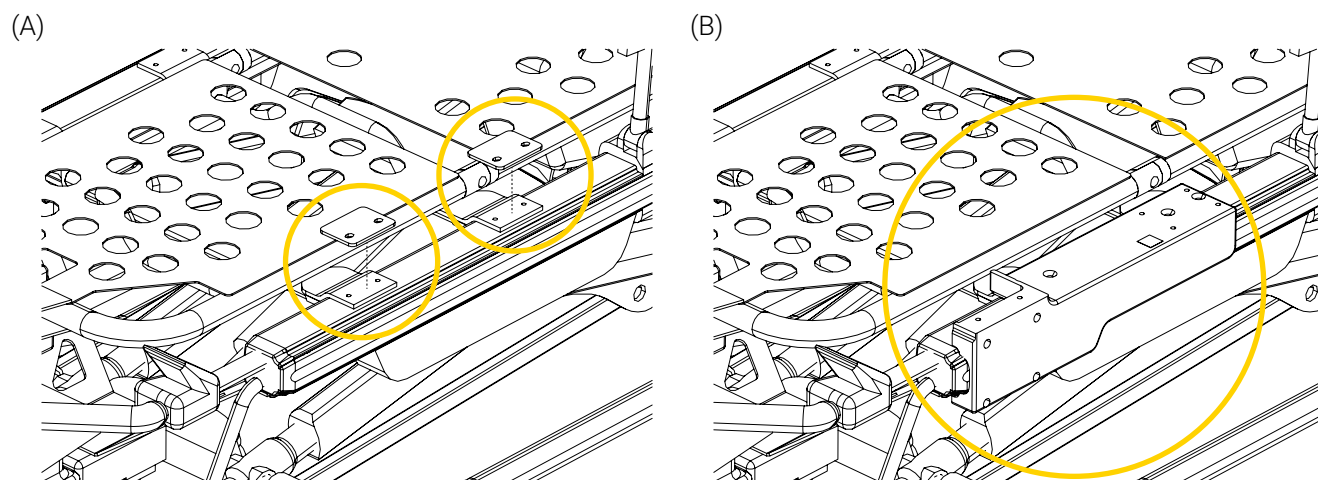

Figure 27: Placement of the spacers and exterior part of the XTPA-PPXT Rail clamp block
2. Place two (2) spacers on top of the stretcher frame (Figure 27 A), followed by the exterior part of the XTPA-PPXT Rail clamp block on the outer frame (Figure 27 B), aligning the screw holes.